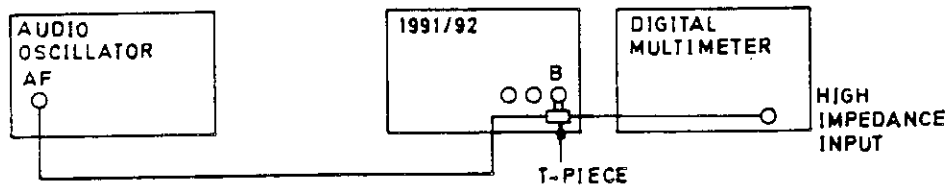

Figure 6.30 - Connections for Channel B Sensitivity PVP (II)
6.9.3.3 Channel B PVP (II)
- a. Connect the test equipment as shown in Figure 6.30